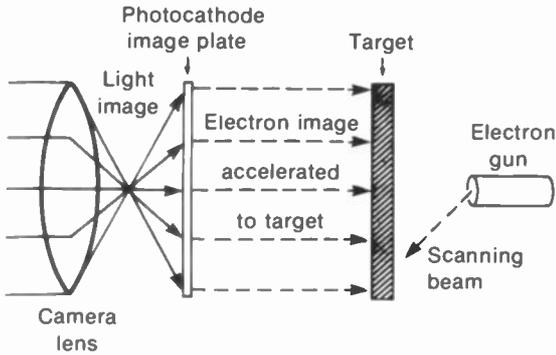

FIGURE 3-3 PHOTOEMISSION PRODUCING AN ELECTRON IMAGE IN A CAMERA TUBE.
**Photoemission.** Certain metals emit electrons when light strikes the surface. These emitted electrons are called *photoelectrons*, and the emitting surface is a *photocathode*. Especially sensitive to light are the elements cesium, silver, sodium, potassium, and lithium, in the group of alkali metals. Cesium oxide is often used because its photoemission is sensitive to incandescent light. The photoelectric effect is illustrated in Fig. 3-3.